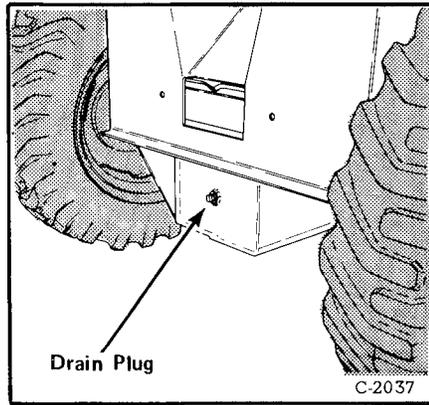

Fig. 1-33 Chaincase Check, Fill, Drain Plug
(1) Put loader on a level surface.
(2) Remove the plug, located at the front of the chaincase housing (Fig. 1-33).
(3) Add recommended fluid into the hole until the fluid is level with the hole. Install the plug.
(4) To remove fluid from the chaincase, put the rear end of the loader on blocks and remove the fluid through the opening in the front end of the chaincase.